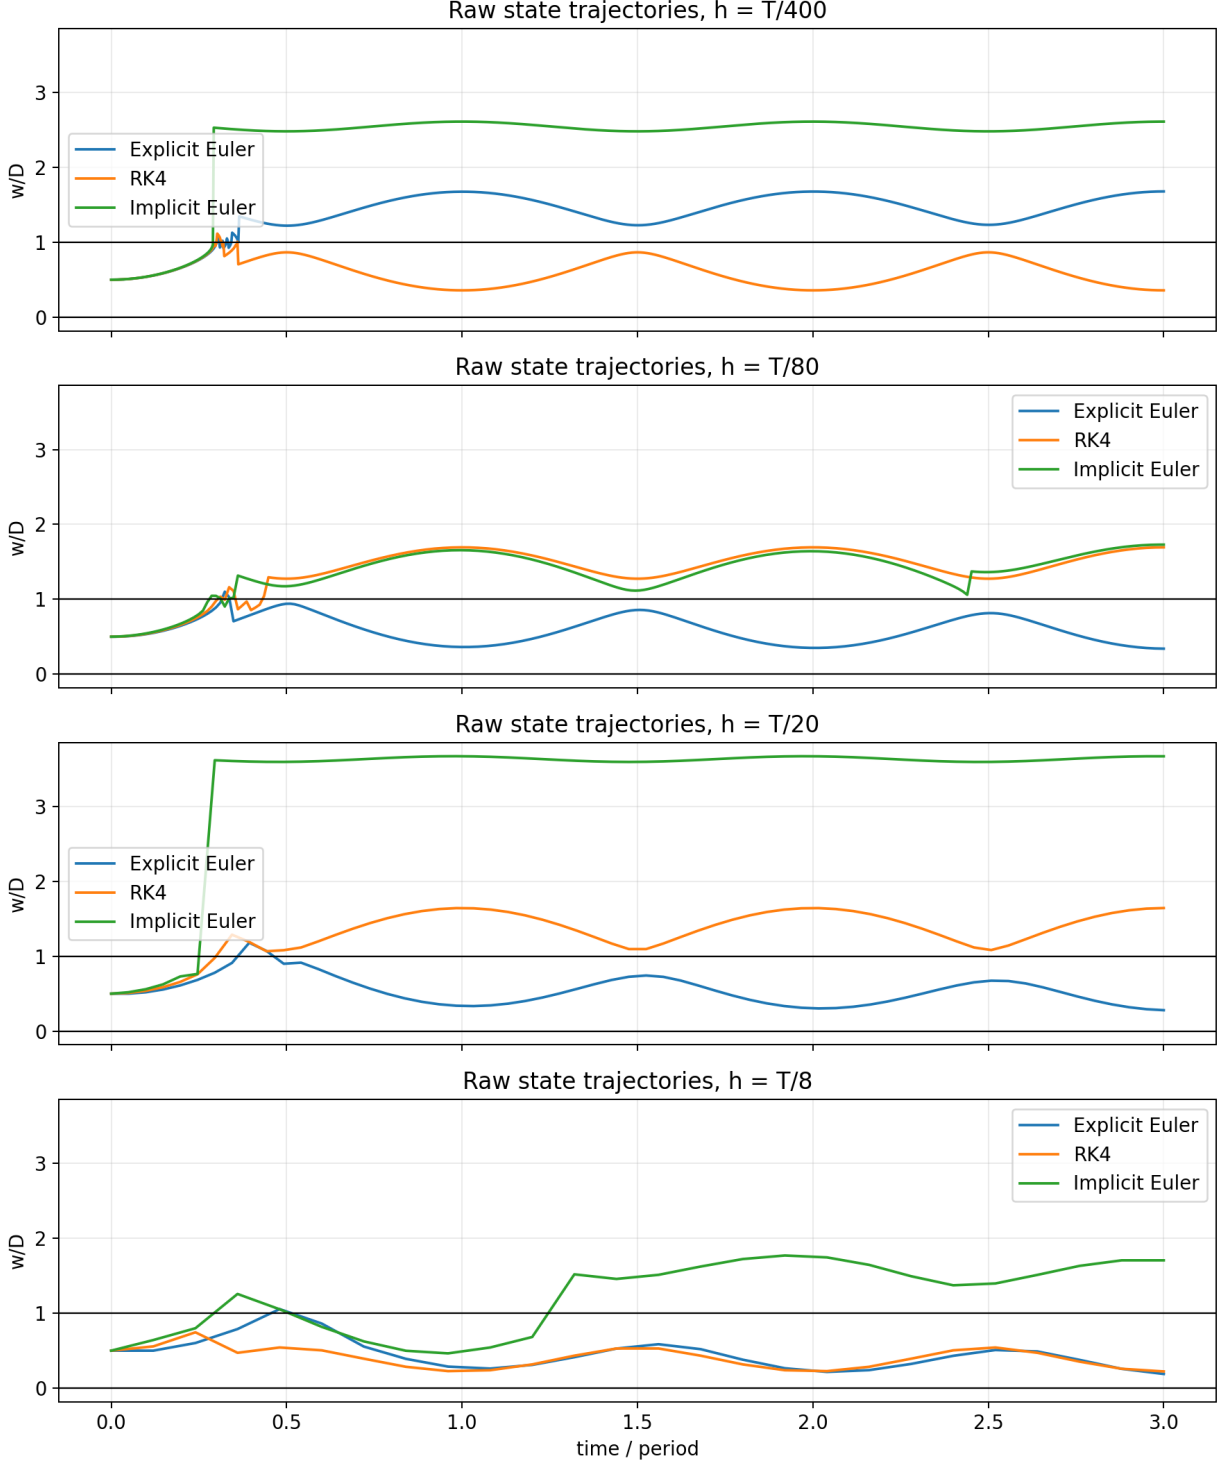

Figure 1: Raw normalized state trajectories for all methods and step sizes.
Figure 1 shows $w(t)/D$, the normalized internal state, over time. The horizontal axis is time divided by the voltage period. The vertical axis is the fraction of the device that is doped.
6.2 Presentation explanation for Figure 1